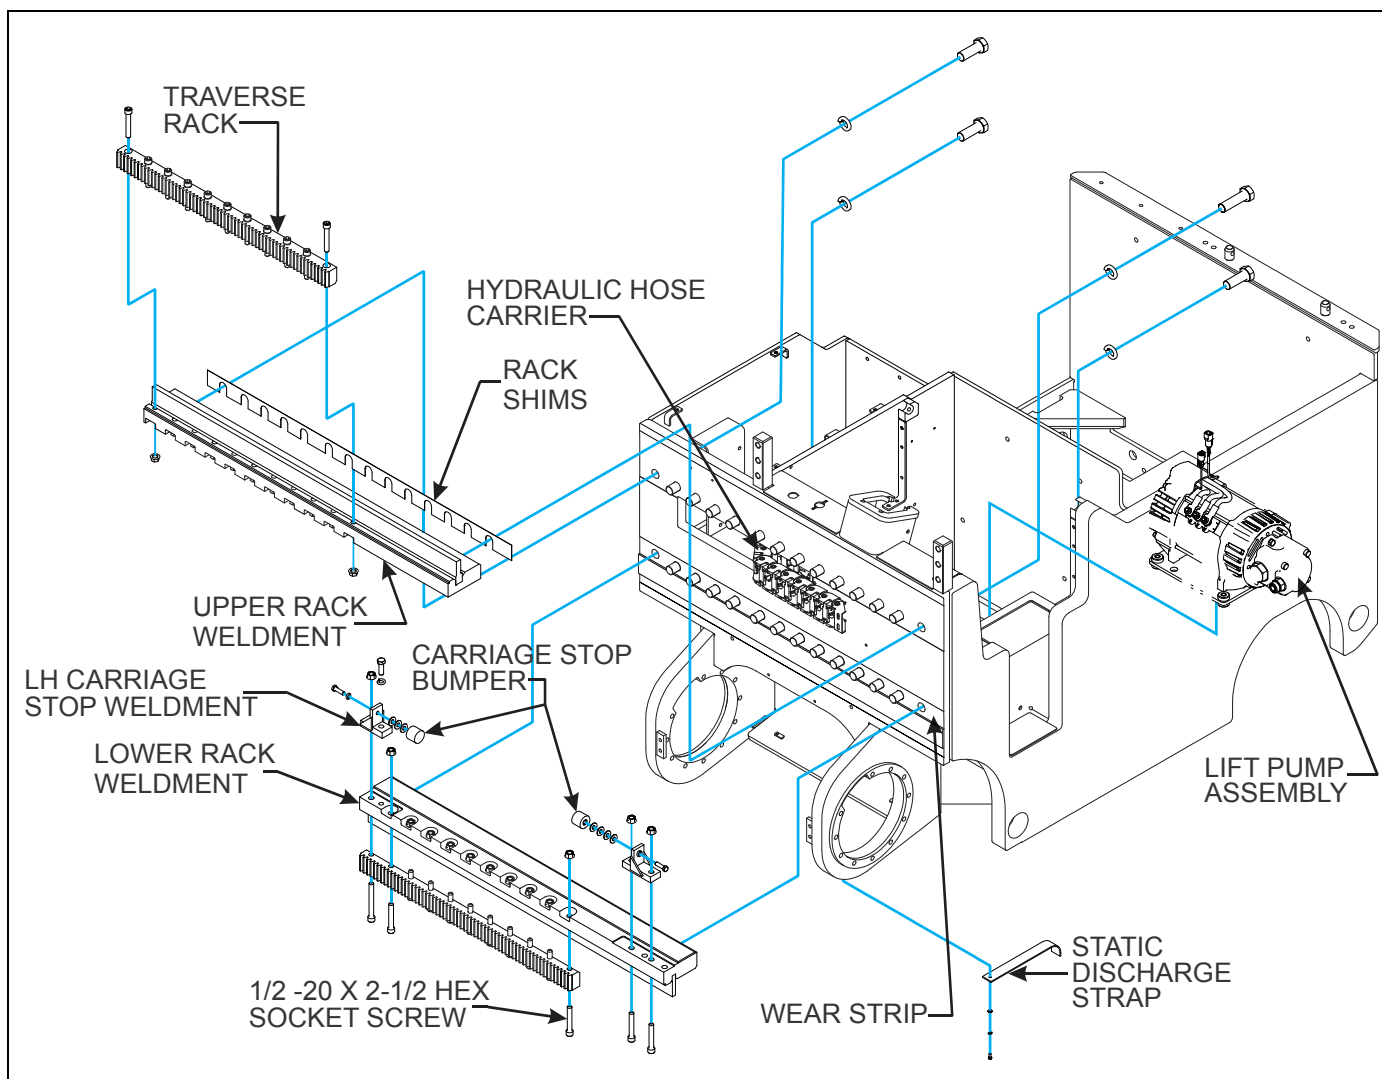

Figure 3-8: Hydraulic Hose Carrier and Rack Installation
17. Remove all the hoses from the carriage weldment assembly so that they are just coming out of the hydraulic hose carrier (See Figure 3-8).
19. Remove the left hand carriage stop weldment (See Figure 3-8).
2. Remove mounting hardware holding traverse rack to the upper or lower rack weldment (See Figure 3-8).
2. Remove old wear strip (See Figure 3-8) that needs replaced.